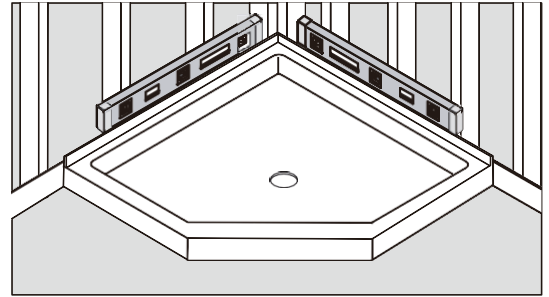

FIG 1 Check to assure base is level by placing a level in a horizontal position on top of the threshold (front rim) of the base, sides and back.
- 2** Trial fit base in prepared alcove. With base sitting flat on floor, check with level on top of base. Base should be level from front-to-back and side-to-side (Fig 1).